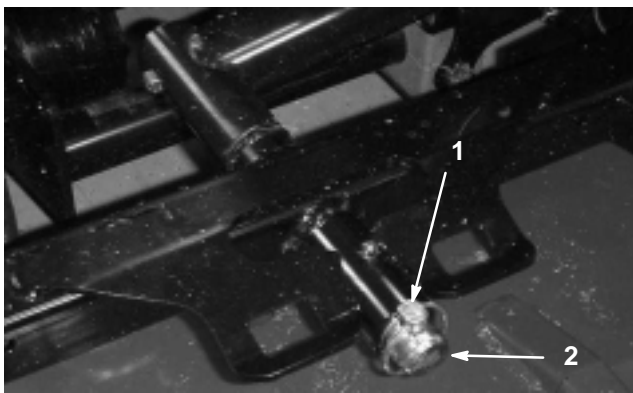

Figure 9
3. Remove lynch pin or retaining nut (GM4700 only) securing deck carrier frame to lift arm pivot pin (Fig. 9).
3. Slide deck carrier frame onto lift arm pivot pin. Secure with lynch pin or retaining nut (GM 4700 only) (Fig. 9).